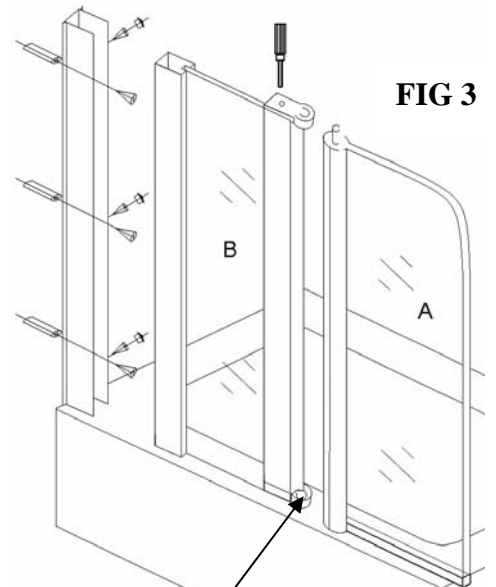

FIG 3
1. Position the wall profile **BS1001** so the seal on the moving panel **A** sits on the inside edge of the bath. **Fig 3**
2. Plumb the wall profiles **BS1001** using the vertical element of the spirit level. Mark 3 holes, drill with 6mm masonry bit and fit wall plugs **BS6004**. Using the 3 Screws **BS4002**, fix wall profiles to wall. **Fig 3**.
4. Remove the top Hinge bracket **BS6001** by loosening the screw. Insert the moving panel **B** and reattach the top hinge bracket. **Fig 3**
5. Ensure the bottom seal on the moving panel **A** is parallel to the top surface of the bath. Drill 3 holes through the wall profile and fixed panel using a 3.5mm steel drill bit. Using the Screws **BS4004**, fix the hinge upright to the wall profile in 3 places. **Fig 3**